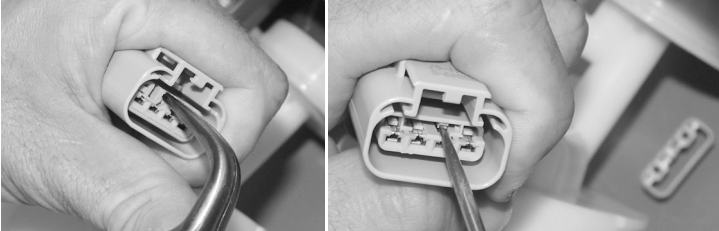

Figure 1
- B) Carefully remove the level sender wires from the electrical connector, note the level sender wire locations and release them from the connector. Route the wires down through the pump retainer hole. (See Fig. 1)
- F) Disconnect the pump power supply wires from the electrical connector (see Fig 1). Be sure to note the position of the positive and